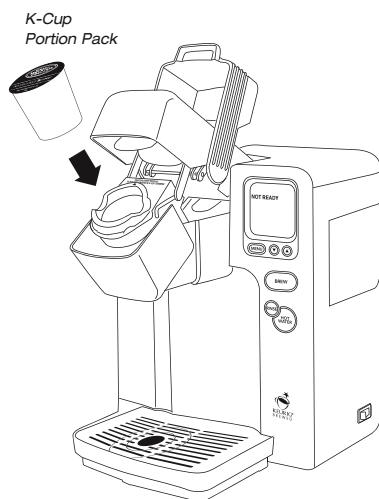

figure 8
5. Place a K-Cup® in the brewing chamber (see figure 8).